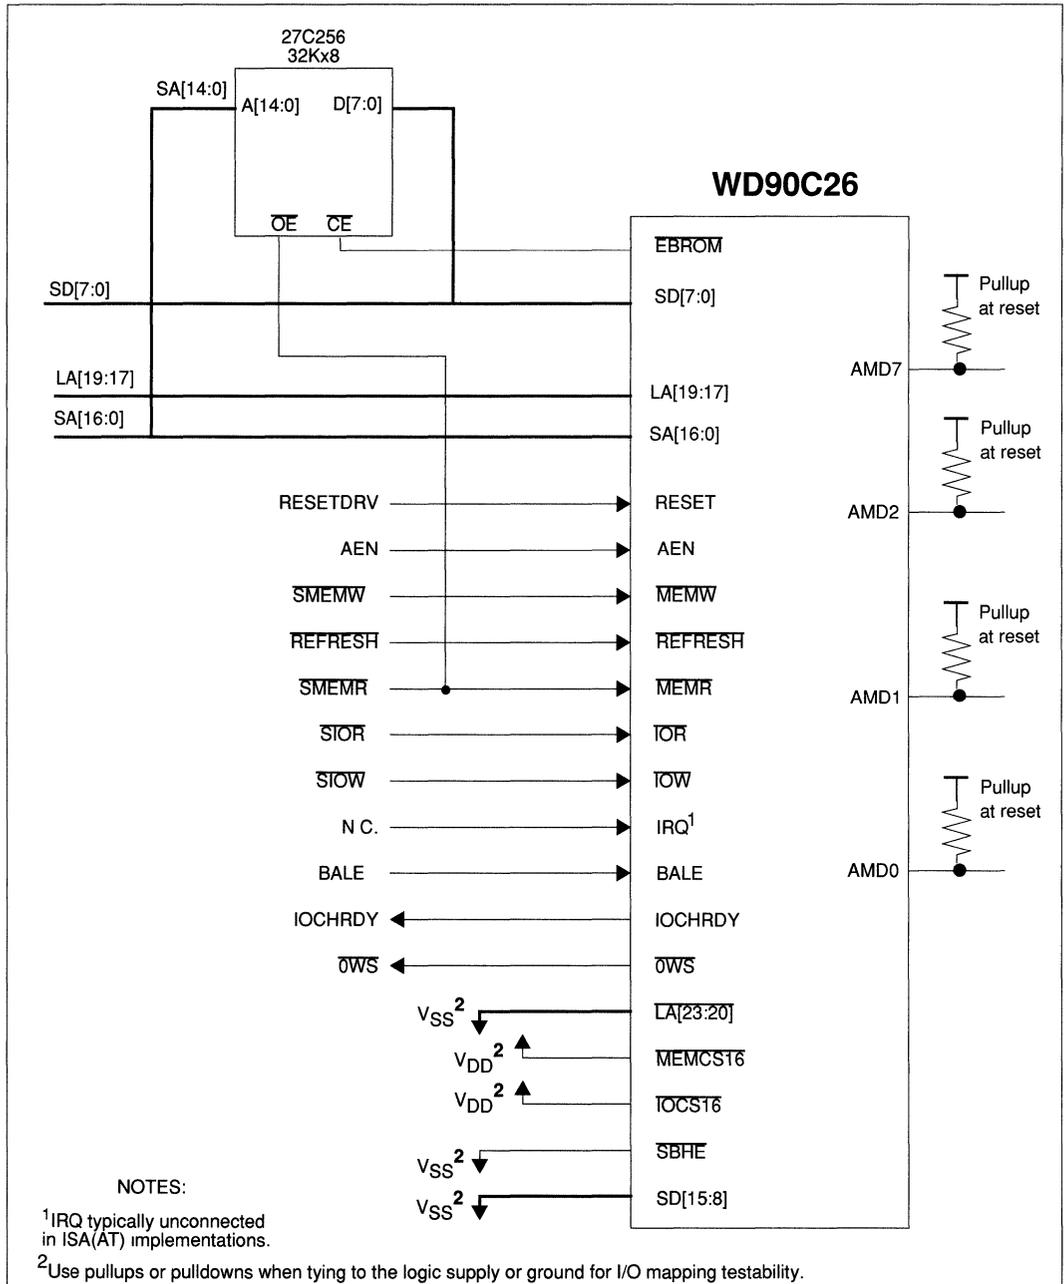

FIGURE 6-5 8-BIT ISA BUS (AT) INTERFACE
- 8-Bit ISA Bus (AT) Interface with 8-Bit BIOS, Figure 6-5.
Figure 6-5 shows a typical 8-bit ISA Bus (AT) interface. The system data bus SD(7:0) and address bus SA(19:0) are shown with the BIOS ROM.